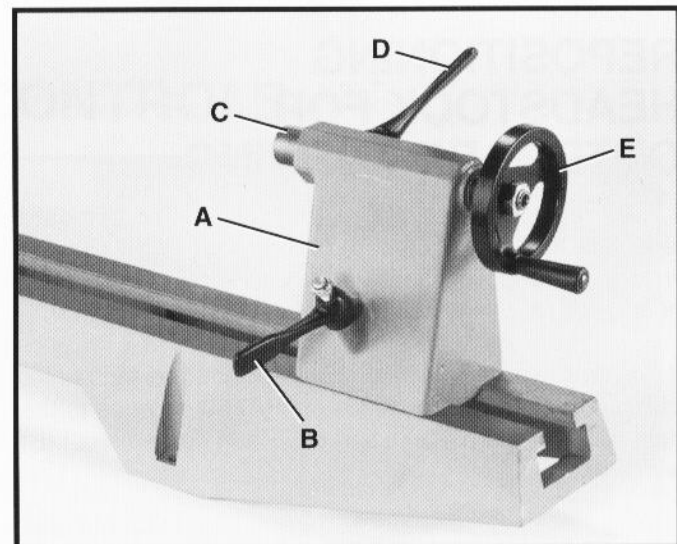

Fig. 28
The tailstock (A) Fig. 28, can be moved lengthwise along the lathe bed by loosening locking lever (B), sliding tailstock (A) to the desired position on the bed, and tightening lever (B).
The tailstock spindle (C) Fig. 28, moves in or out of the tailstock body by loosening locking lever (D) and turning handwheel (E). Total movement of the tailstock spindle (C) is two inches. The tailstock spindle is hollow the complete length of the tailstock, enabling you to bore holes through turnings as shown later in this manual. **NOTE:** Locking lever (B) is spring-loaded and can be repositioned by pulling out on the handle and repositioning it on the nut located underneath the locking lever.